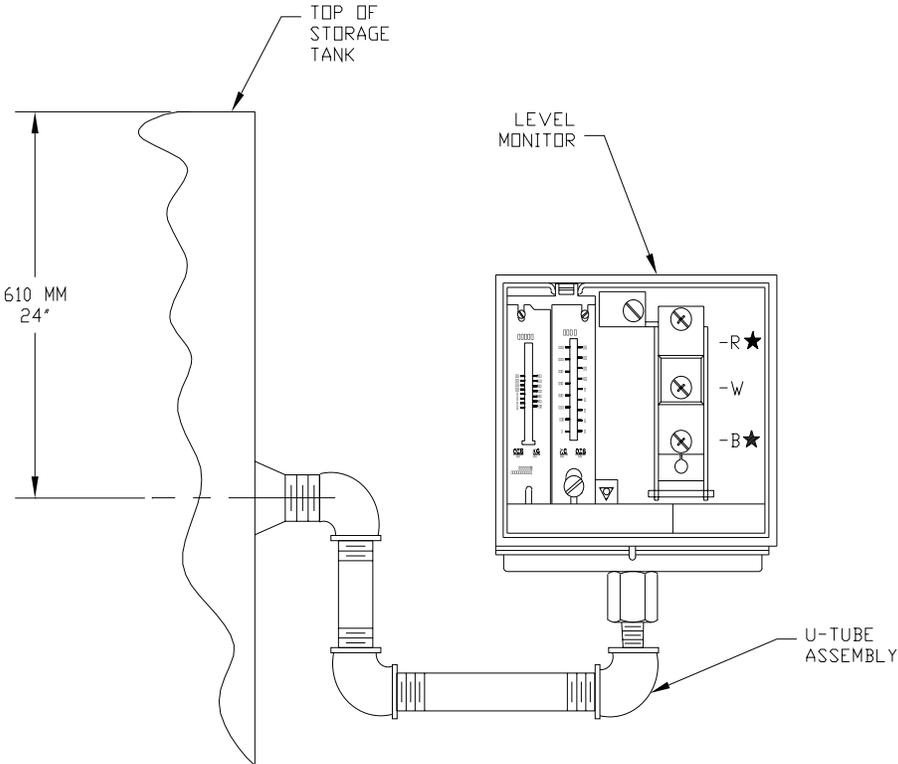

Figure 2: Level Monitor Installation
1. Install a 3/8-inch NPT tin-lined spud 610 mm (24 inches) from the top of the tank as shown in Figure 2. If the spud cannot be located 610 mm (24 inches) from the top of the tank because the tank is too shallow, or for some other reason, locate the spud as close to 610 mm (24 inches) as possible.